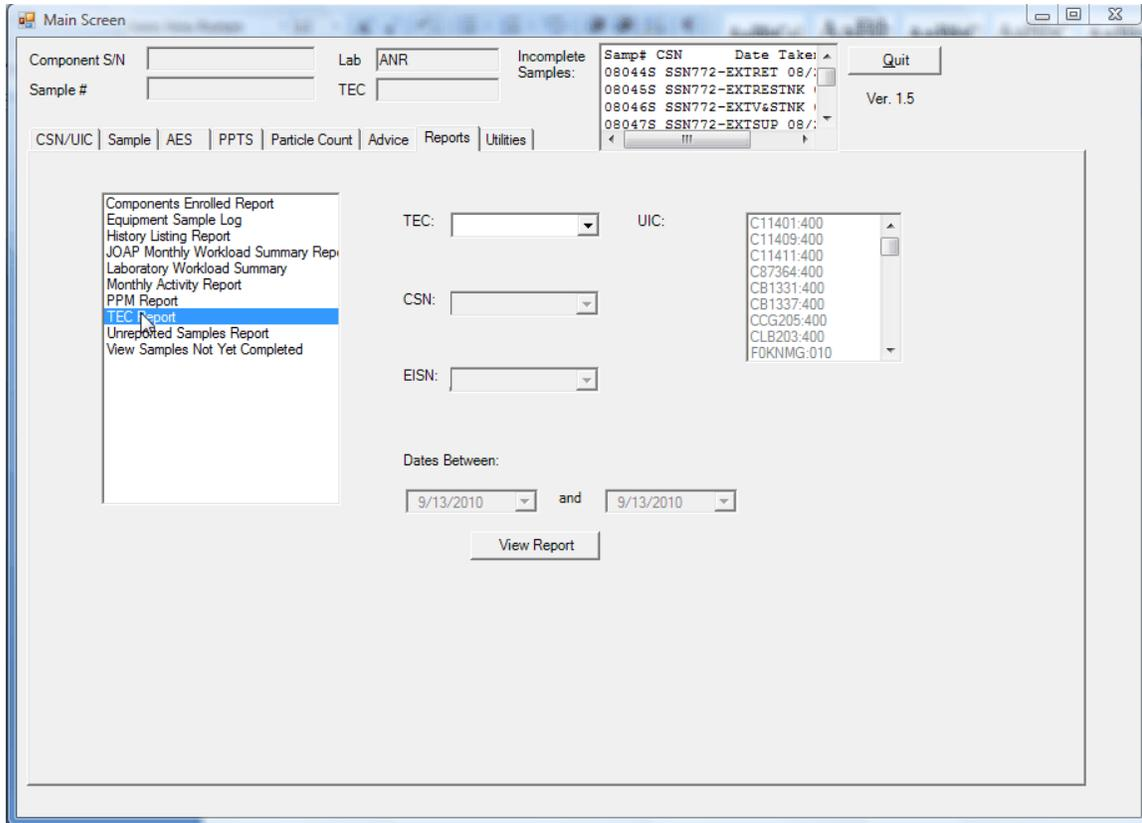

Figure 55. TEC Report
- g. TEC Report. Click on TEC report and the following screen will appear (Figure 55).